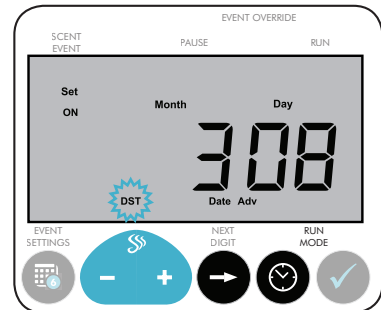

Fig. 15: This is the screen for DST. You cannot adjust the dates the system will use for DST.
2. Press the CLOCK button one (1) time to display the date. The first digit of the year slot will flash.
3. Press the CLOCK button one (1) more time. DST will flash. **(Fig. 15)**
- A. If DST is on, press and hold the - button for three (3) seconds to turn off DST.
- B. If DST is off, press and hold the + button for three (3) seconds to turn on DST.